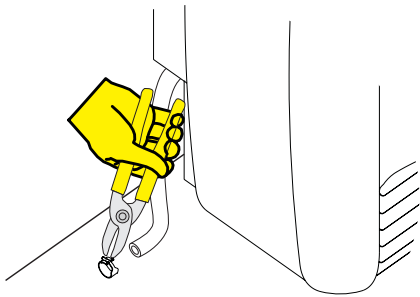

Figure 2
- Use the pliers to open one of the 1/2" hose clamps and slide the clamp over the end of the wall furnace's drain hose. Make sure to slide the clamp far enough up the hose to allow it to fully slide over the end of the barbed connection on the bottom of the condensate pump. **See Figure 2.**